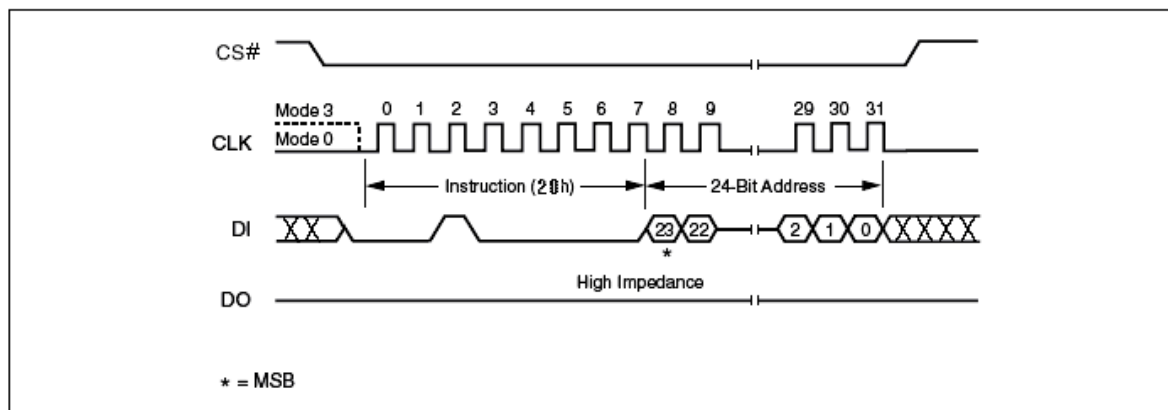

Figure 28. Sector Erase Instruction Sequence Diagram
The instruction sequence is shown in Figure 28. Chip Select (CS#) must be driven High after the eighth bit of the last address byte has been latched in, otherwise the Sector Erase (SE) instruction is not executed. As soon as Chip Select (CS#) is driven High, the self-timed Sector Erase cycle (whose duration is t_{SE}) is initiated.